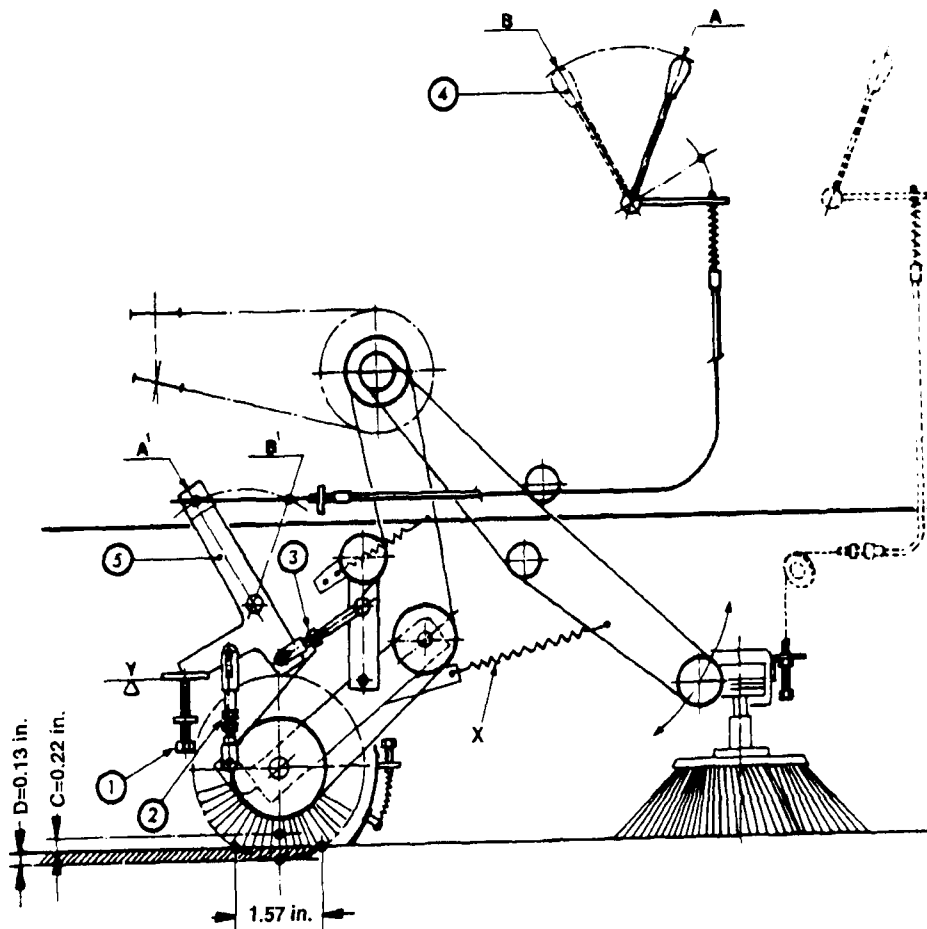

Figure 5
With the machine stationary and the brush turning on the floor, the sweeper should leave a clean path of about 1.57 in. (40mm), as indicated in Figure 5.
NOTE: This operation should be done with the machine off and on a flat floor, whenever cleaning efficiency decreases. For this operation, refer to Figure 5.
2. Release the main brush control lever (4) so that the main brush rests on the floor with the pressure given by spring X (shown in Figure 5).
For this operation, refer to Figure 5. When the brush is considerably worn, the main brush control lever (4) is probably in maximum position thus canceling the action of register 1. A new adjustment must be made to recover the wear of the brush as much as possible. After returning the main brush control lever (4) into rest position B (brush engaged), the following steps must be carried out.
3. Move register 1 to a distance of 0.59 in. (15mm) from contact with lever 5. Move the main brush control lever (4) into position A so that lever 5 comes into contact with register 1.